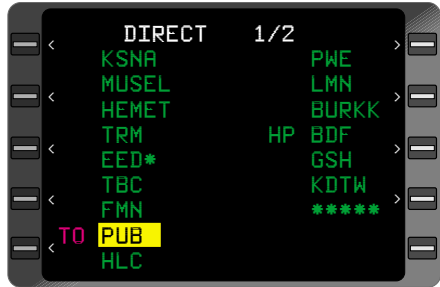

Figure 3-91
2. Line Select Key - DEPRESS to position the cursor over the identifier to follow the new entry. (Figure 3-91)